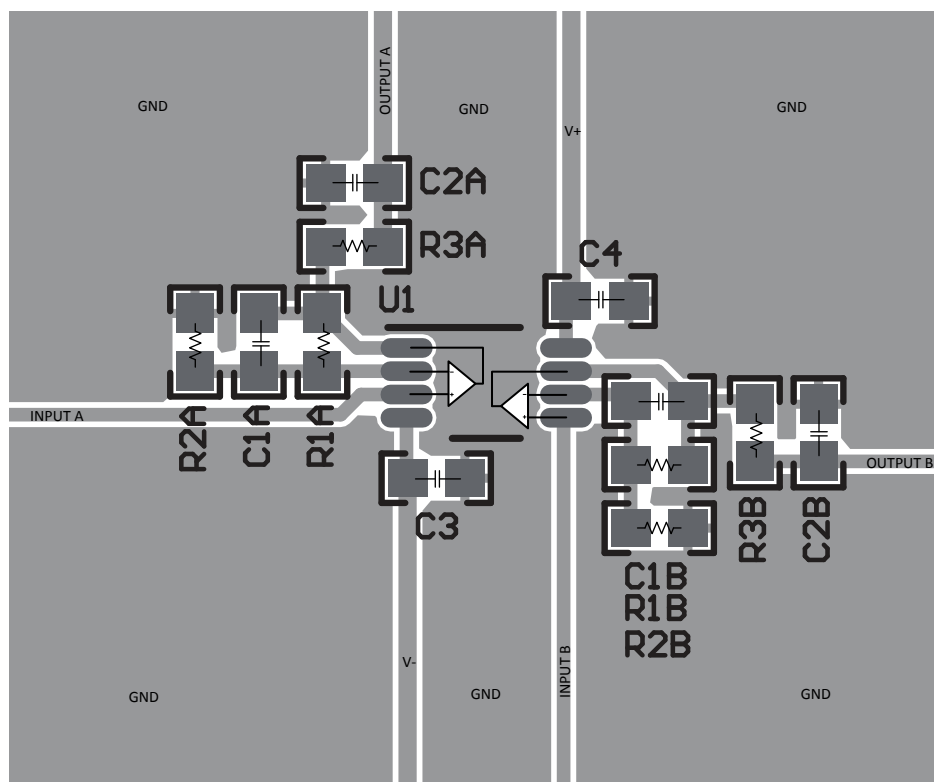

Figure 7-4. Example Layout for TLV9142
- Place the external components as close to the device as possible. As shown in Figure 7-4, keeping RF and RG close to the inverting input minimizes parasitic capacitance.